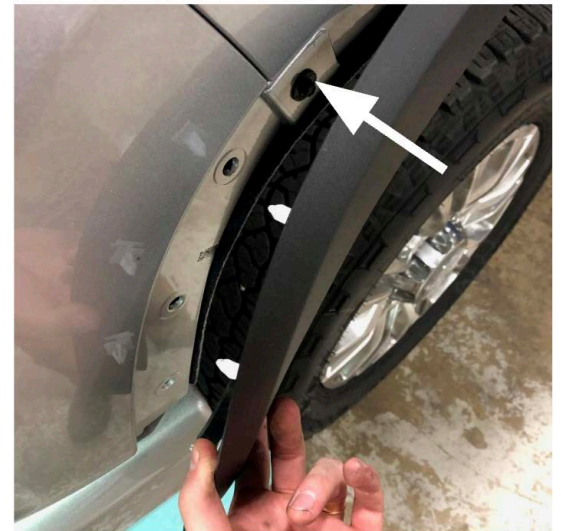

Figure 2.
2. Use a body pry tool to carefully remove the front of the fender flare away from the body. Use a 7mm socket wrench to remove the bolt on the valance. Figure 2.